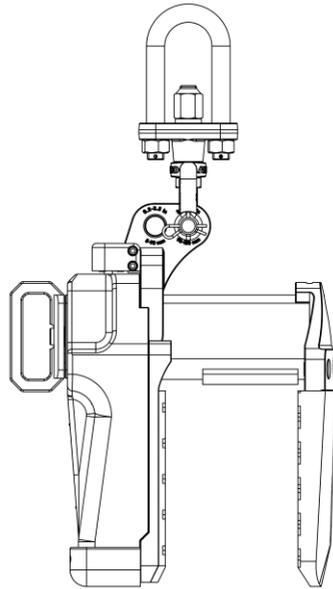

Figure 1.2: Position 2
- + Hook the Swivel Shackle at position 2 when the slab thickness is from $3\frac{9}{16}$ " (90 mm) to $5\frac{7}{8}$ " (150 mm) (Figure 1.2).